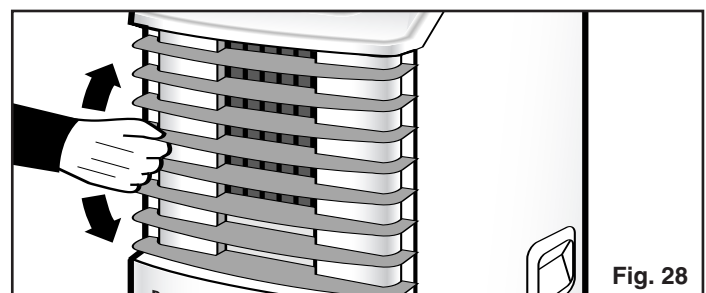

Fig. 28
- 5) To adjust “air flow” direction, (up / down only) adjust any one of the **Horizontal Louver Blades** (**excluding the top and bottom louver**) and the remaining louvers will automatically adjust to the same position. *Fig. 28*.